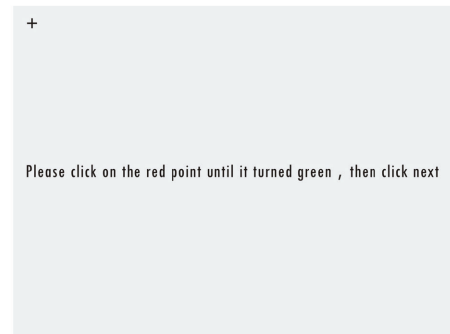

Fig 5-8 Screen Calibration
- **Screen Calibration:** Calibrate screen according to display, Enter calibration screen, click the small black cross one by one. (**Fig 5-8**).